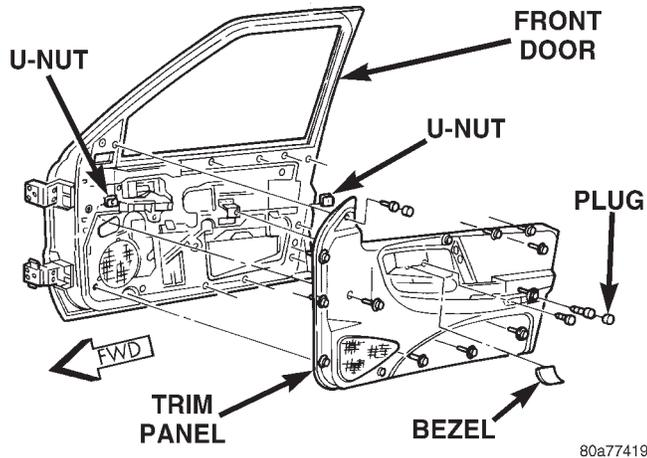

Fig. 6 Front Door Trim Panel Remove/Install
(1) Disconnect and isolate the battery negative cable.
(2) Remove the bezel near the inside door latch release handle by inserting a straight-bladed screwdriver in the notched end of the bezel and prying gently upwards.
(3) Remove the screw located beneath the bezel that secures the front door trim panel to the inner door panel (Fig. 6).